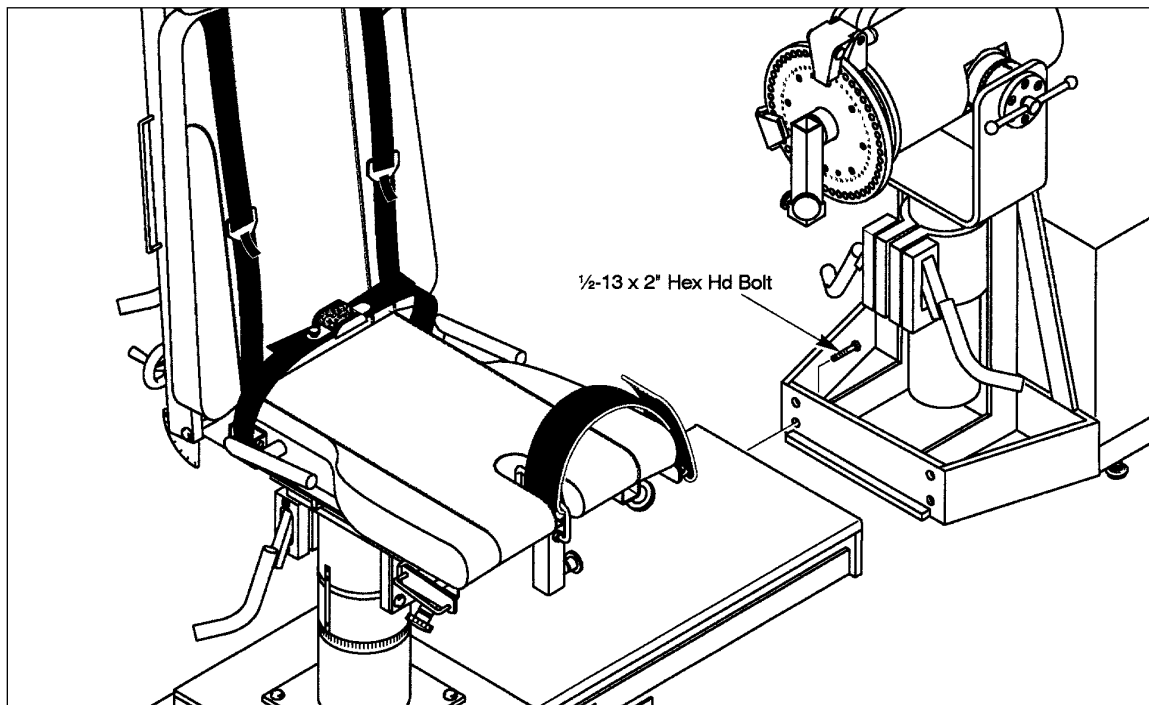

Figure 3-2. Seat Assembly Module attaches to Electronic Module
3. Tighten bolts using a 3/4" socket wrench. (See Figure 3-2.)